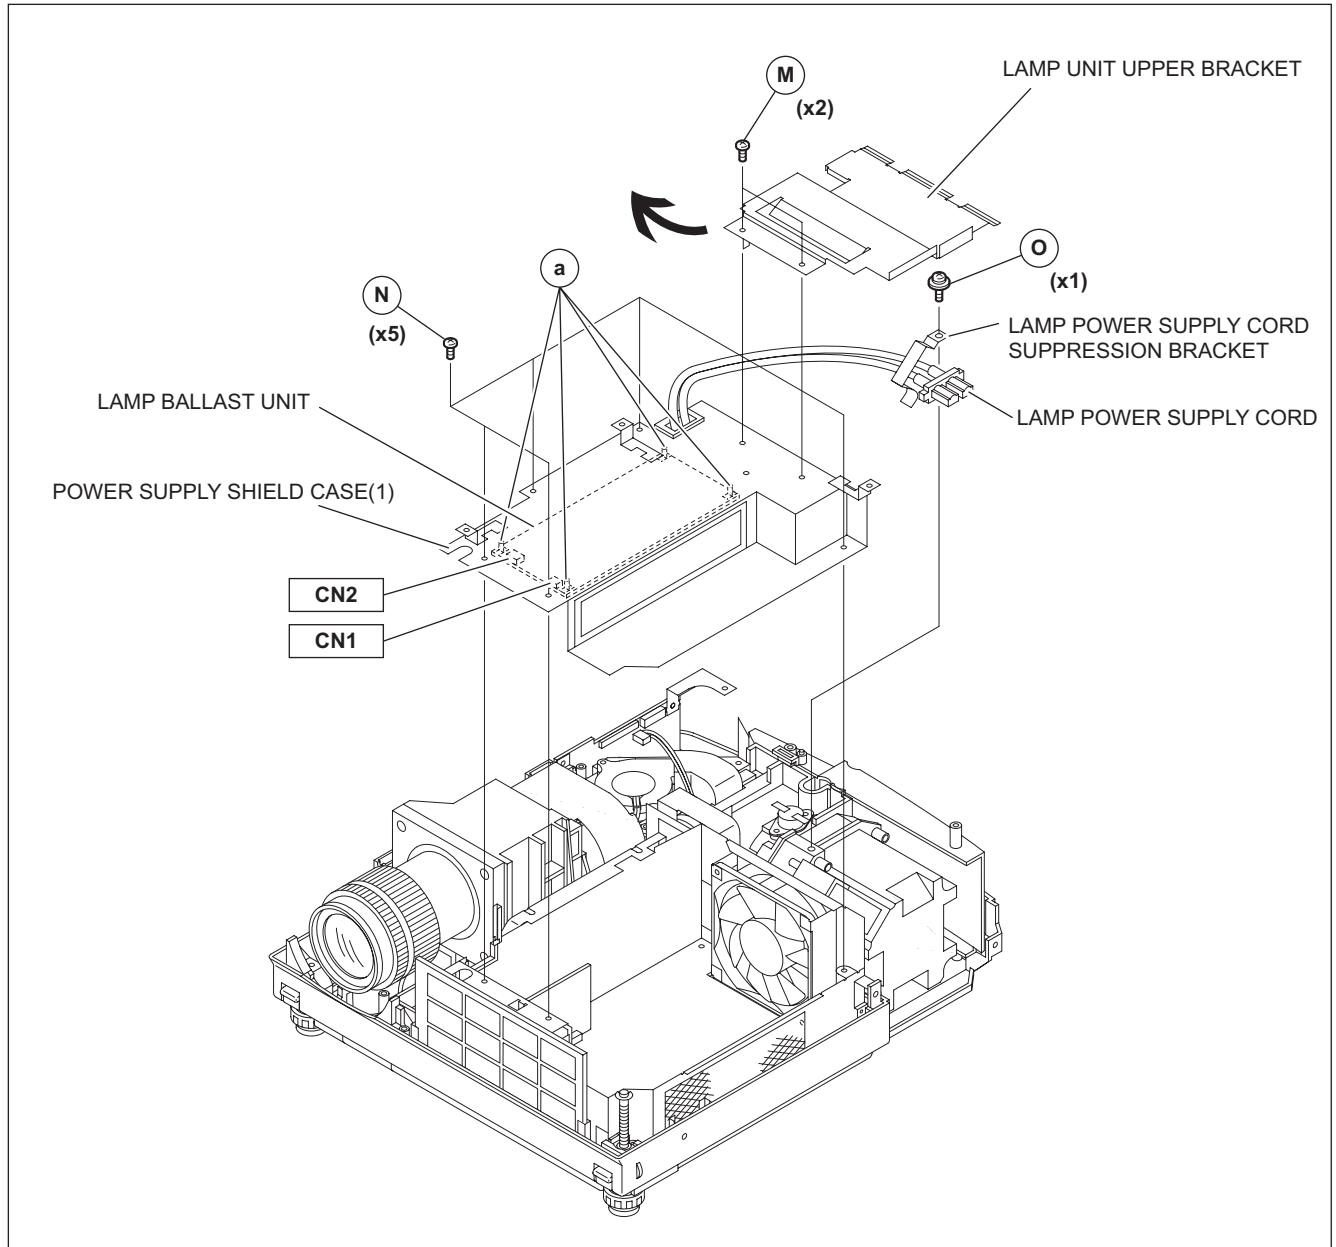
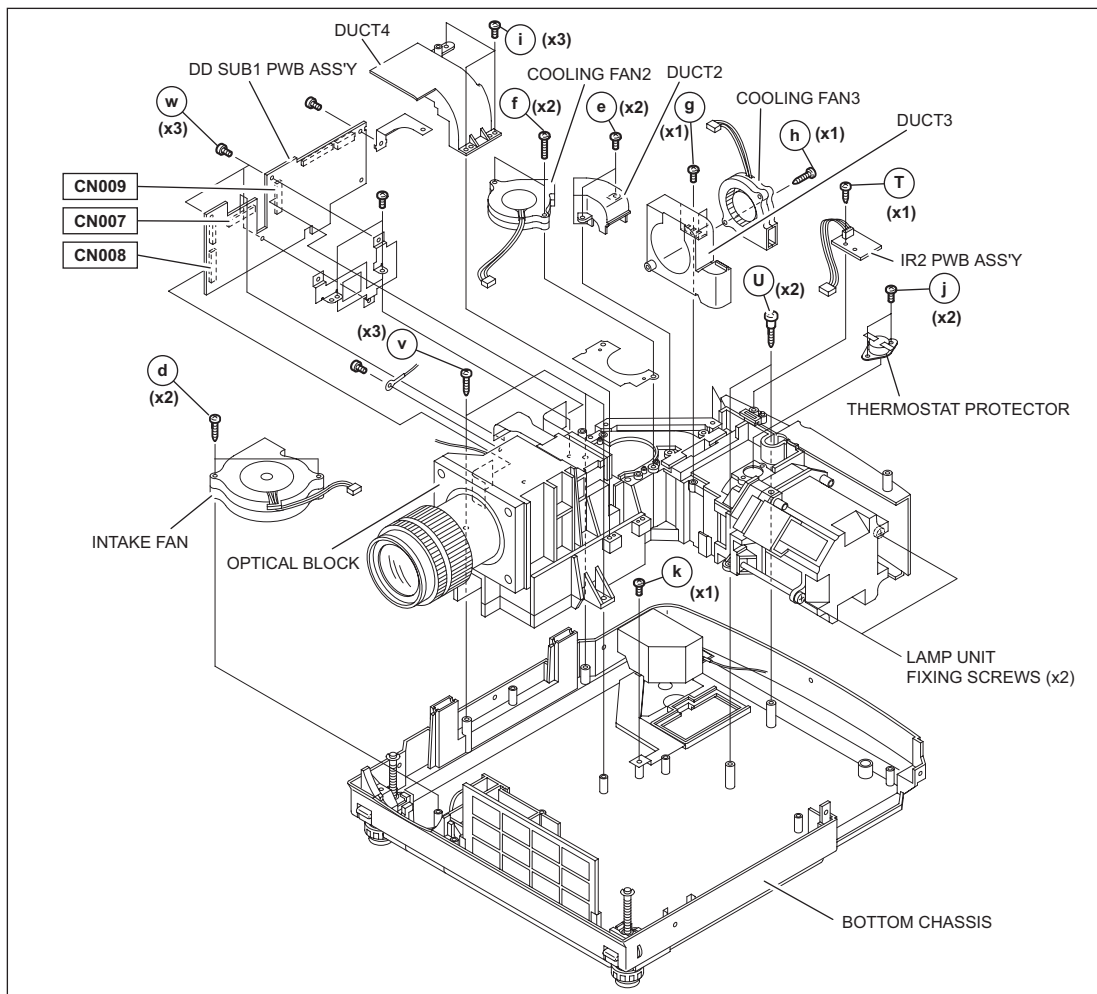

Fig.4
Fig.6
- (1) Remove the 2 screws marked **M** fixing the LAMP UNIT UPPER BRACKET. (Fig.4)
- (2) Pull out the LAMP UNIT UPPER BRACKET in the direction of the arrow.
3.10 POWER SUPPLY SHIELD CASE(1) and LAMP BALLAST UNIT
- (1) Remove the 5 screws marked **N** fixing the POWER SUPPLY SHIELD CASE(1). (Fig.4)
- (2) Disconnect the connectors **CN1** and **CN2**.
- (3) Remove the 1 screw marked **O** fixing the LAMP POWER SUPPLY CORD SUPPRESSION BRACKET. (Fig.4)
- (4) Lift up the LAMP POWER SUPPLY CORD SUPPRESSION BRACKET to remove it, and remove the LAMP POWER SUPPLY CORD.
- (5) After setting up the POWER SUPPLY SHIELD CASE(1), remove the 4 claws marked **a** which secure the LAMP BALLAST UNIT to the back of the POWER SUPPLY SHIELD CASE. (Fig.4)
- (1) Remove the 1 screw marked **T** fixing the IR2 PWB ASS'Y. (Fig.6)
- (2) Lift up the IR2 PWB ASS'Y to remove it.
- (1) Remove the 1 screw marked **o** fixing the LAMP POWER SUPPLY CORD SUPPRESSION BRACKET. (Fig.4)
- (2) Pull out the LAMP POWER SUPPLY CORD
- (3) Remove the 2 screws marked **j** fixing the THERMOSTAT PROTECTOR. (Fig.6)
- (4) Remove the 2 screws **U** and 3 screws **v** fixing the OPTICAL BLOCK. (Fig.6)
- (5) Remove the 1 screw **k** fixing the EARTH BRACKET that connects the OPTICAL BLOCK and the CHASSIS. (Fig.6)
- (6) Lift up the OPTICAL BLOCK to remove it. (Fig.6)
- (7) Remove the 2 screws **d** fixing the INTAKE FAN. (Fig.6)
- (1) Remove the 3 screws **w** fixing the DD SUB1 PWB ASS'Y. (Fig.6)
- (2) Remove the cord wire from the connectors CN007, CN008, and CN009.
- (1) Remove the 2 screws marked **e** fixing the DUCT2. (Fig.6) *2
- (2) Remove the 2 screws marked **f** fixing the COOLING FAN2. (Fig.6) *2
- (3) Remove the 3 screw marked **i** fixing the DUCT4. (Fig.6) *2
- (4) Remove the 1 screw marked **g** fixing the DUCT3. (Fig.6)
- (5) Remove the 1 screw marked **h** fixing the COOLING FAN3. (Fig.6)